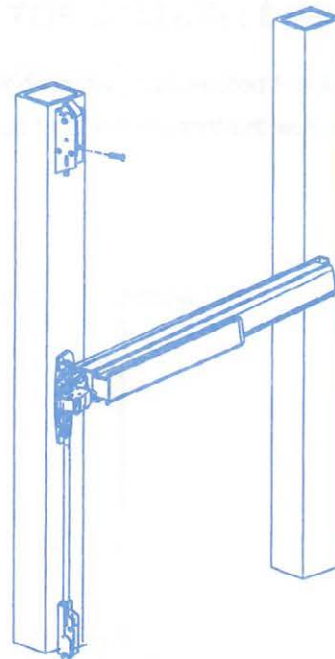

Figure 7
1. Mount top latch assembly into mounting bracket. (See Fig. 7.)